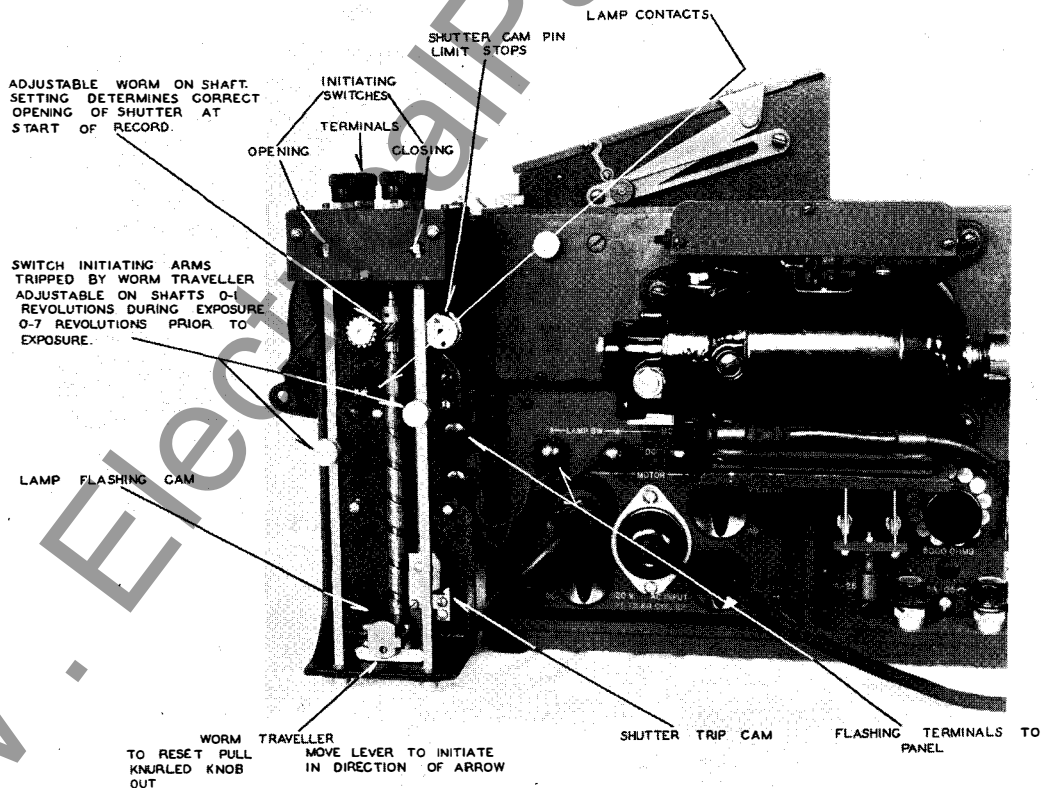
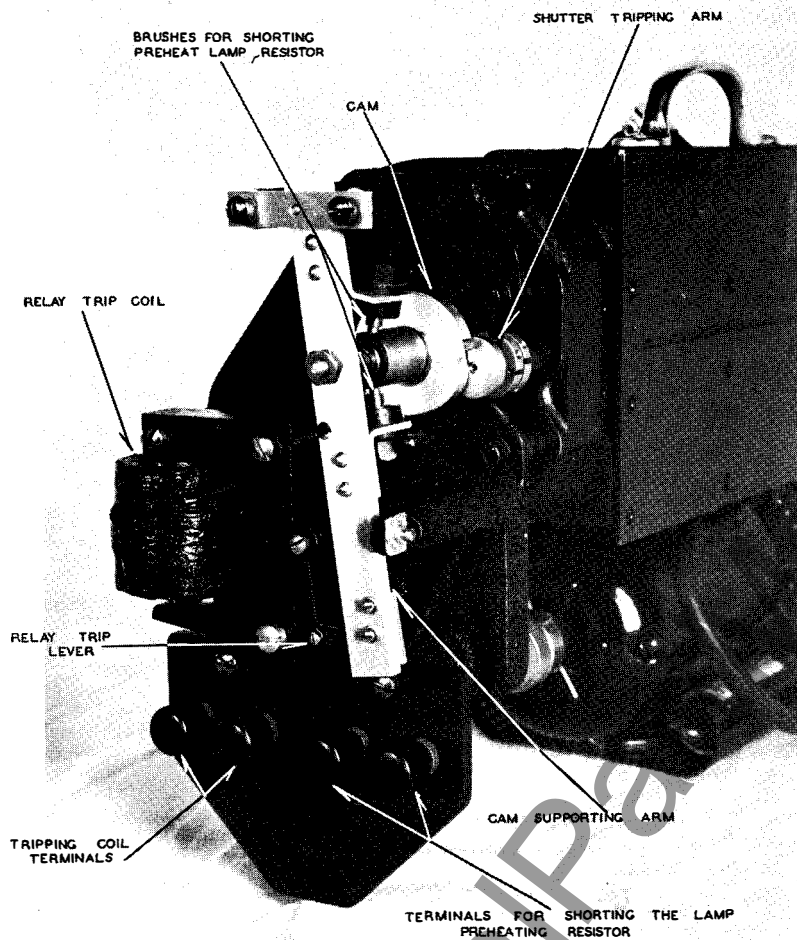
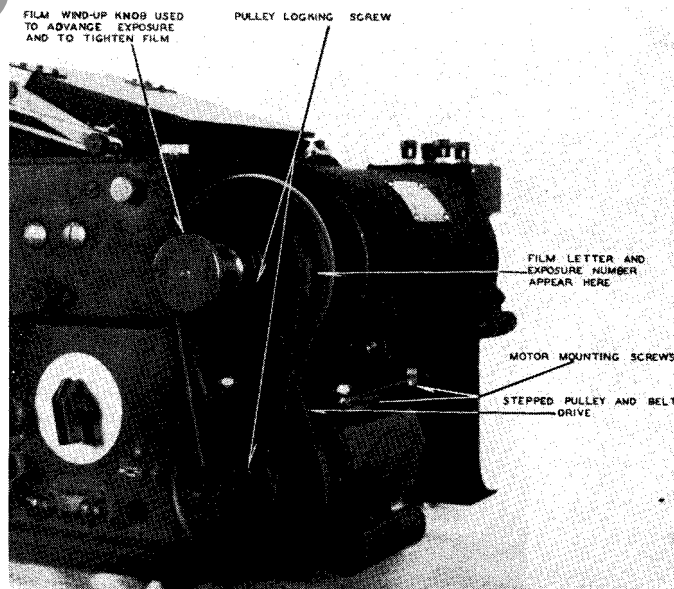

FIG. 60—SIDE VIEW OF DRUM TYPE FILM HOLDER SHOWING WORM TRIPPING MECHANISM.
FIG. 61—SIDE VIEW OF DRUM TYPE FILM HOLDER SHOWING CAM TRIPPING MECHANISM.
FIG. 62—FILM HOLDER IN OPERATING POSITION.
The rotating drum film holder, Fig. 60, 61, 62, 63, 64, is available for operation on 115 volts AC-DC or 6 - 10 volts D-C. It is designed to use sensitized paper or film for either dark room or daylight loading as required and is used in conjunction with panel S#877-043. For very economical operation, where dark room loading is not a disadvantage, cut-film or paper may be used. This method is particularly advantageous for school laboratories where the cost of records must be kept to a minimum. For routine laboratory work daylight loading rolls are available. Cut-film or paper may be obtained in 3 $\frac{1}{2}$ " or 5" widths 14" long. Roll film may be obtained in the same widths for 2, 3 and 5 exposures. The style list of photographic materials gives the items normally available.
In place of the worm tripping mechanism shown in Fig. 60 a cam tripping mechanism, Fig. 61, may be substituted. This is accomplished by removing three mounting screws which hold the mechanism to the side of the film-holder. The purpose of the cam tripping mechanism is to permit electrical conditions to initiate the exposure. In this case the exposure will start anywhere on the drum, but will take place for (1) revolution only. The result will be that the record will be in most cases, divided where the ends of the film meet on the drum. When the film-holder is used dark room loading instead of daylight loading, the smallest possible gap in the record (approximately $\frac{1}{4}$ inch) will take place.
In operation the filmholder is mounted in the slot on the front of the oscillograph as shown in Fig. 62. The motor is connected to the proper source as indicated by the name plate rating. When used with panel S #877043, the connection receptacles are marked as shown in Figs. 36 and 37. These figures also show a switch marked "Motor SW" and "Lamp SW". The "Motor SW" must be connected through either the hand switch cable Fig. 36 or a suitable jumper. The latter method is satisfactory when the motor cable has a switch in it. The "Lamp SW" terminals must be connected to the terminals shown in Fig. 60. Shorting of these terminals by means of closing the lamp flashing contacts, Fig. 60, with the worm traveller as it reaches the end of the operation sequence flashes the lamp during the photographic period. For notes on the settings of the control panel to give satisfactory flashing values see discussion under "Lamp control for photographing", page 23.
Fig. 62 shows the left side. The film wind-up knob, used only with daylight loading, is designed to advance the exposure and to tighten the film on the drum to prevent its flying off during exposure. In the "out" position, the film can be advanced; in the "in" position, the film can be locked in position. To release the knob in the locked or tightened position, it should be advanced slightly and pulled out at the same time.
The film speed to use is determined by the conditions of test, namely the type of phenomena to be investigated and the portion of the record it should occupy for analysis. Fig. 62 shows a stepped pulley arrangement with belt drive. For very slow speeds all three belts are used. For intermediate and high speeds only a single belt is required.
**1 $\frac{5}{8}$ " dia. motor pulley may be unlocked from 3 $\frac{3}{4}$ " dia. idler pulley with the screw shown in Fig. 62 to be used with the 3 $\frac{3}{4}$ " dia. drum pulley which is to be unlocked from the drum to become an idler pulley by placing locking screw horizontal as shown in the Fig.
Should the belts become too loose, the motor mounting screws may be extended and locked with the nuts shown in Fig. 62.
Fig. 60 shows the worm traveller which trips the shutter also the two trip switches "ON" and "OFF" set ready to trip. These switches, one to close a circuit the other to open a circuit are rated at 10 amps. 120 volts a-c., and 5 amps. d-c., may be set at a predetermined number of revolutions in advance of the shutter opening by moving them along the scale marked revolutions lead. Both switches must be advanced slightly as the scale indicates for high drum speeds.
Fig. 60 shows the trip mechanism for the shutter, the traveller and the lamp switches. The traveller moving
The film-holder cover is now closed and the film register (the large knurled disc, see Fig. 62) is set on "W" for Westinghouse films and "C" for Commercial films. The film wind up knob in the out position advances the film to exposure 1, etc. Pushing it in and
Care should be used in the operation of the film-holder to avoid any unnecessary mechanical shocks as it can be damaged unless proper care is taken in its operation. The automatic shutter is set so as to be in the center of the slot and the front collar stop (Fig. 60) at the cam pin shaft is set for this position by means of the set screw in the collar. The back collar acts as an auxiliary stop to prevent chatter and is set by the position of the cam pin working against the cam surface. The cam may be moved back and forth on the traveller towards the cam pin by loosening the flister head machine screws holding it to the traveller. In the fully open position, .001" to .002" play should exist between the maximum rise of the cam surface and the cam pin. At the start of opening, the cam pin should just be tangent to the cam.
To determine film speed, tachometers should be used and they may be placed in the center of the wind up knob, Fig. 62.
When using the cam tripping mechanism, Fig. 61, the sequence of operation is as follows: The circuit breaker or switch mechanism is connected in series with the tripping coil for the rated coil voltage according to the nameplate rating, marked "tripping coil terminals" in Fig. 61, the shorting preheat resistor terminals, panel S #877043, page 23, are connected to the "preheat lamp shorting terminals", Fig. 61. The film-holder is loaded with cut film or paper as has been previously explained for the full drum circumference. Fig.
cam will lock itself against the friction wheel. For the next operation the cam must be reset by moving the tripping arm towards the shutter, then pulling the cam outwards away from the film-holder, rotate it into the position shown in Fig. 61. At this point the tripping arm should lock the cam out of engagement by means of the relay trip lever.